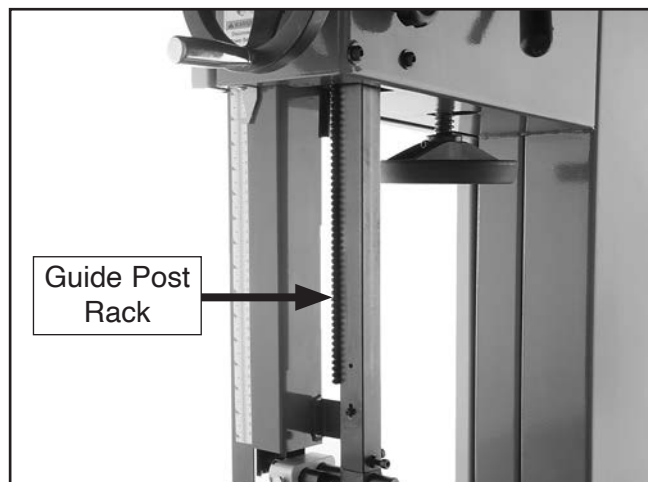

Figure 89. Guide post rack exposed for lubrication.
3. Use a rag and mineral spirits to wipe off any grease and sawdust build-up on rack (see **Figure 89**).